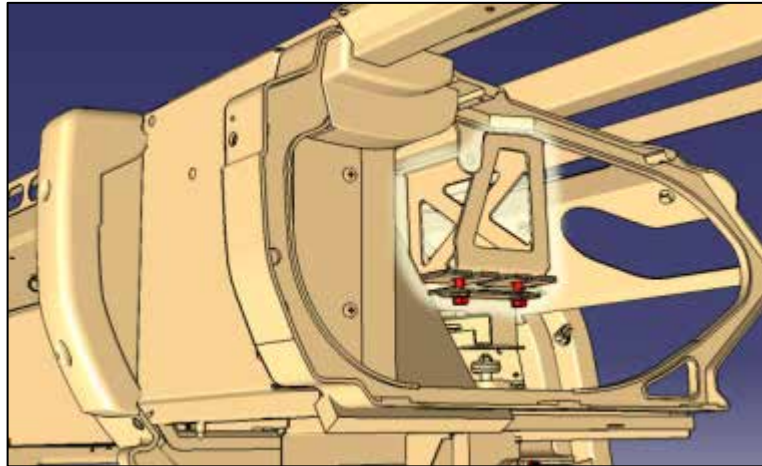

Figure 58
88. Locate the rail end and frame support. (Figure 58)